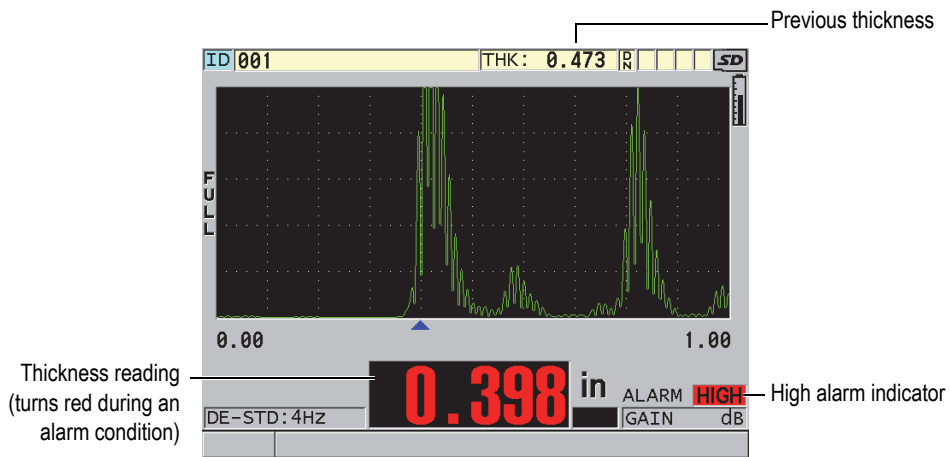

Figure 8-4 Example of a HIGH alarm indicator
- The **HIGH** or **LOW** alarm indicator flashes with a red background at the bottom right corner of the measurement screen (see Figure 8-4 on page 136).